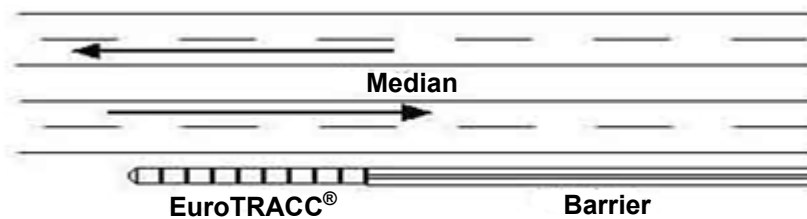

Figure 5 - Unidirectional Traffic Flow – One Side – Requires No Transition.
Assembly of a EuroTRACC® system and its backup connections or transitions depends on the traffic pattern and the backup structure at each location. Unidirectional traffic (one side or both) requires no transition (Figures 5 and 6) and only requires connection to a backup structure. The Backup Frame can be attached to any solid structure including a square cast-in-place concrete pillar, a vertical concrete wall, or the end of a New Jersey-style barrier. The Backup Frame provides a pattern for anchor studs that may require adaptation to the Backup structure. “**Free-standing**” assemblies need two (2) driven standard guardrail posts or two (2) foot-plate posts anchored to the system foundation and attached to the Backup Frame. Call Customer Service at +1-214-589-8140 or your local Valtir International representative with questions (p. 3).